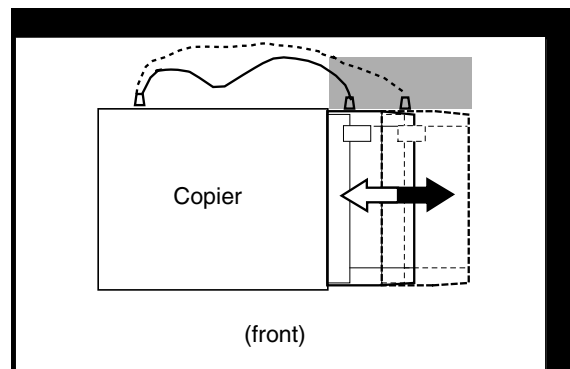

Fig. 2-18
- Advise the user not to place any object where indicated (shaded) in Fig. 2-18 when connecting the power plug of the heater so that the paper deck may be opened and closed normally.